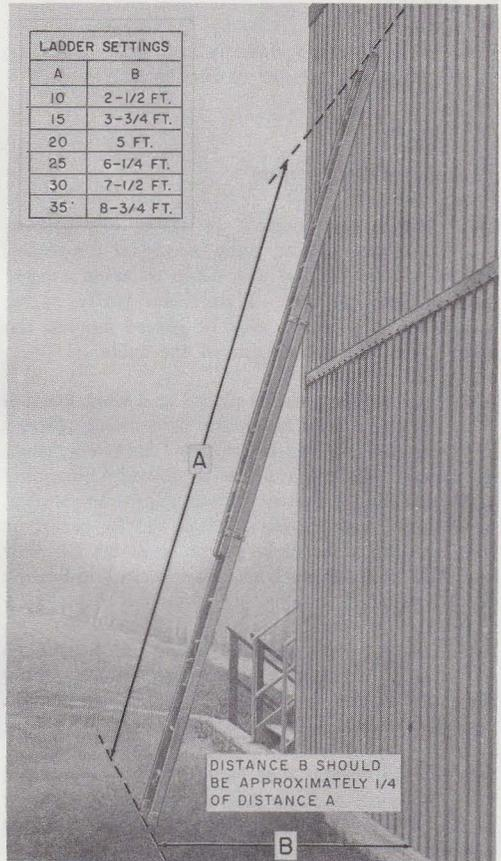

Fig. 1—Proper Ladder Angle
3.02 Use care in positioning ladders before climbing them. Place the foot of the ladder on the ground or other firm support so that distance B (Fig. 1) from the base of the ladder to a line extended vertically from the top support (building or strand) is approximately one-fourth of the length of the ladder measured from top support to bottom support. If distance B is greatly exceeded, there is danger of imposing excessive stresses on the ladder. If distance B is considerably less than one-fourth of distance A, the ladder will be pitched